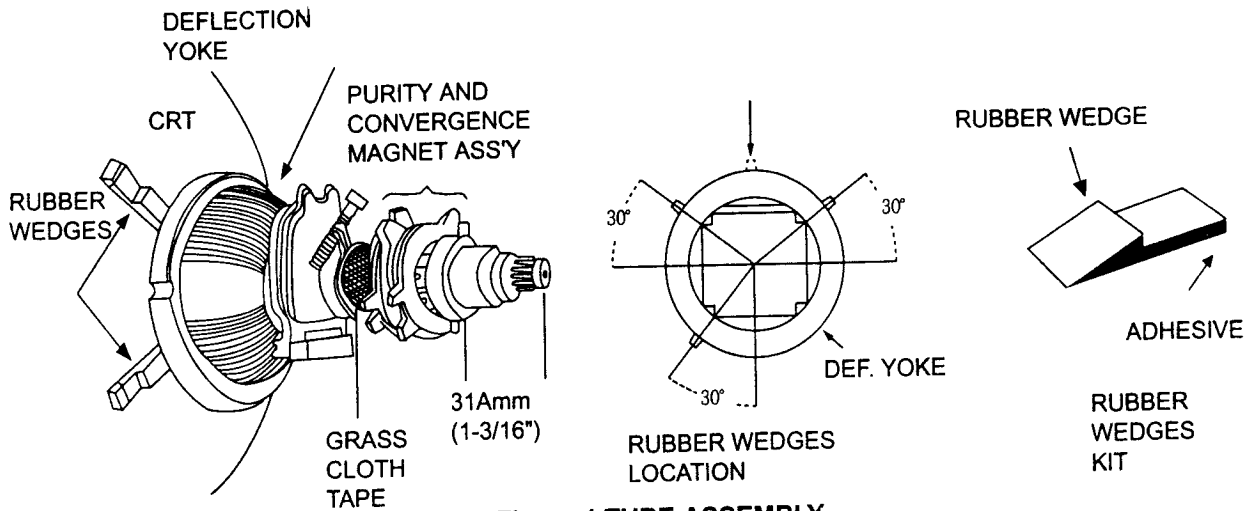

Figure 1. TUBE ASSEMBLY
- b)Put a wedge as shown in Fig. 1 temporarily. (Do not remove the cover paper on adhesive part of the wedge).
- i)Stick 3 adhesive tabs on wedges as shown in Fig. 1.